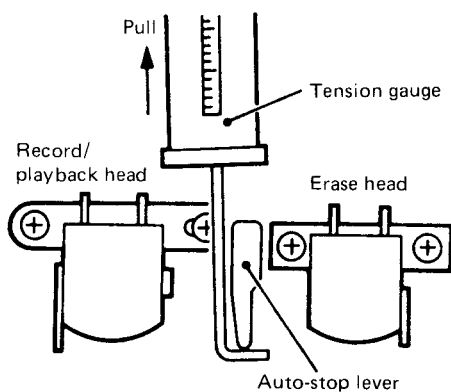

Fig. 10
- 2) Hang a tension gauge on the detection cap tip as shown in Fig. 10, then confirm that when this gauge is slowly pulled, the auto-stop lever operates in the range of 50–70 g.